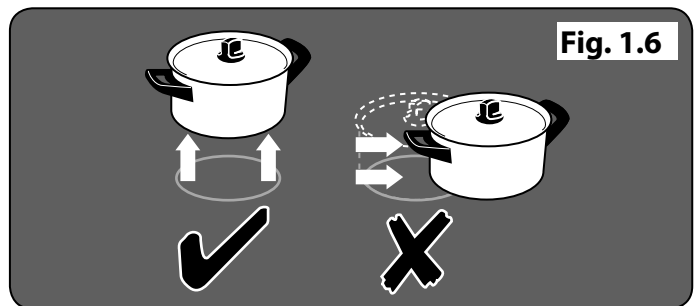

Fig. 1.6
- **ALWAYS LIFT** cookware off the hob. Sliding the griddle or pans may cause marks and scratches (**Fig. 1.6**).